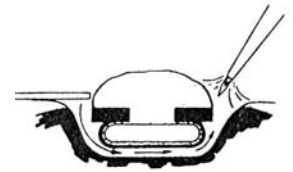

Fig. 15
17. Apply flux to the attachment and the casting. Evenly heat both components to be soldered. The two "parent" metals to be soldered should be hot enough so that when the solder touches them it melts. The torch does not melt the solder. If the metal casting and attachment are not hot enough to melt the solder remove the solder, continue heating, and then re-introduce the solder. At the correct temperature the solder will flash all the way through the joint. Position the torch flame on one side and the solder on the other. Draw the solder completely around the attachment (Fig. 15). Allow to bench cool.